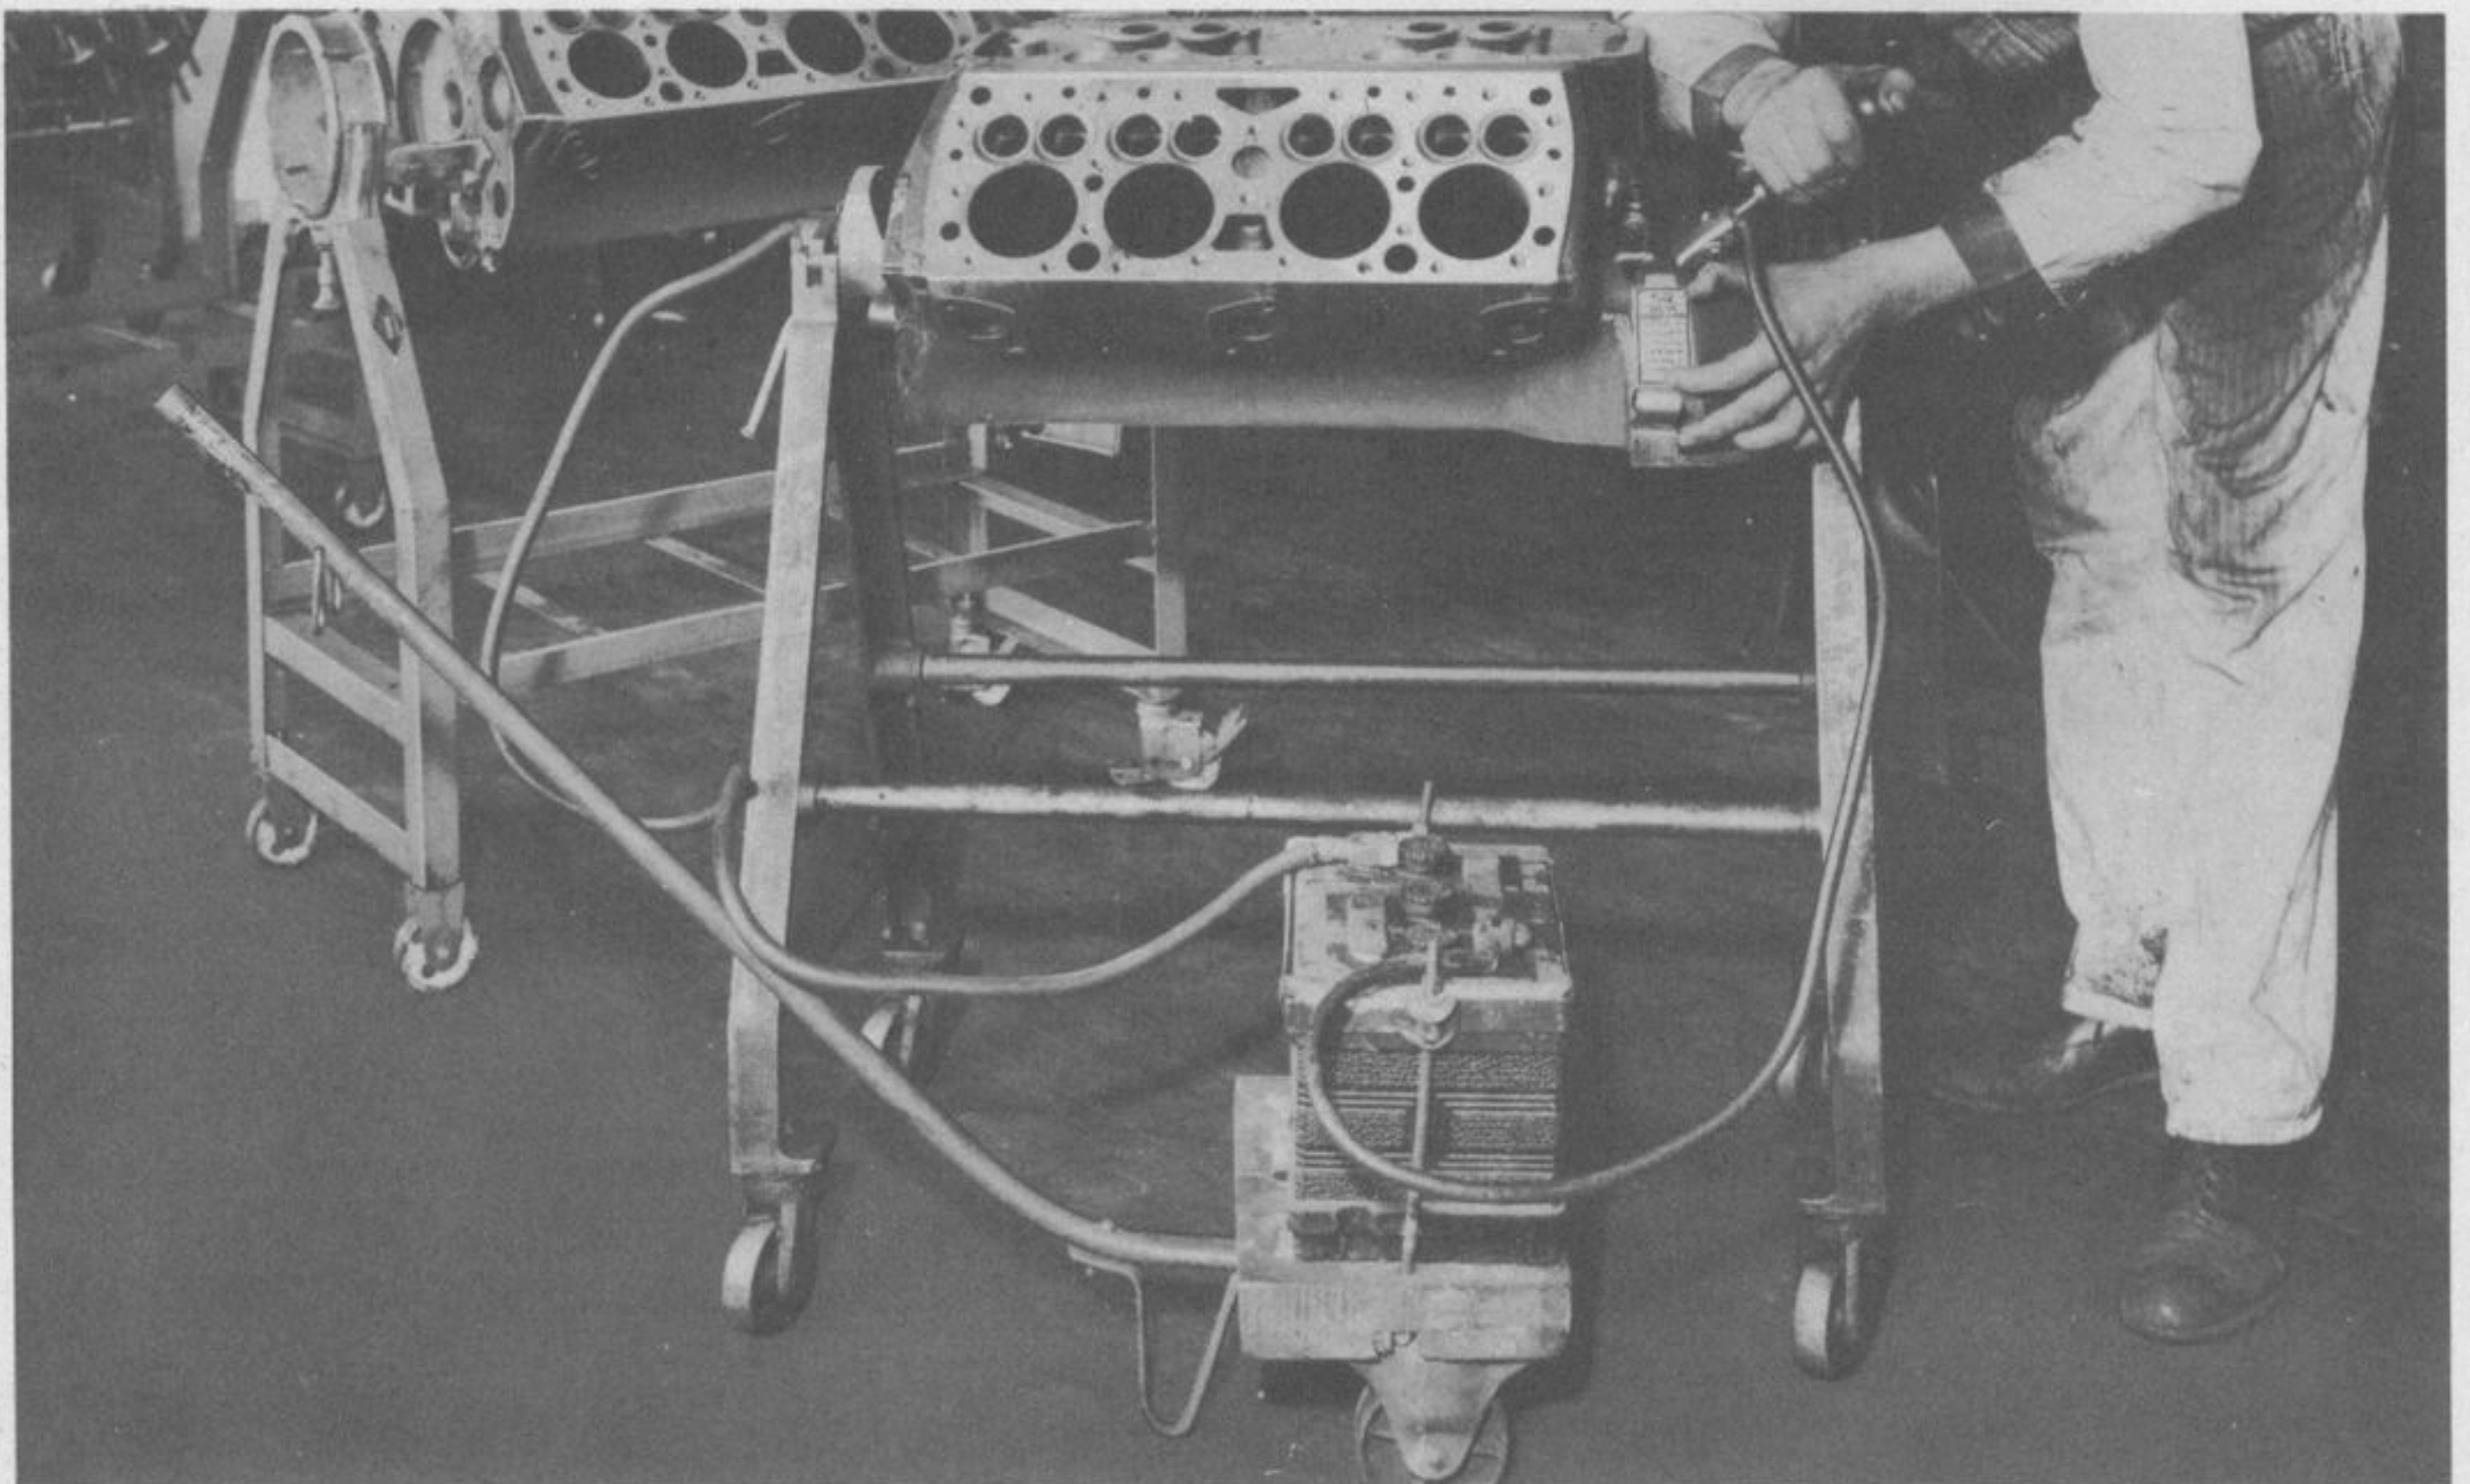

Figure 34—Installing Authorized Plate
19. WELDER FOR AUTHORIZED ENGINE PLATE. (Fig. 34).